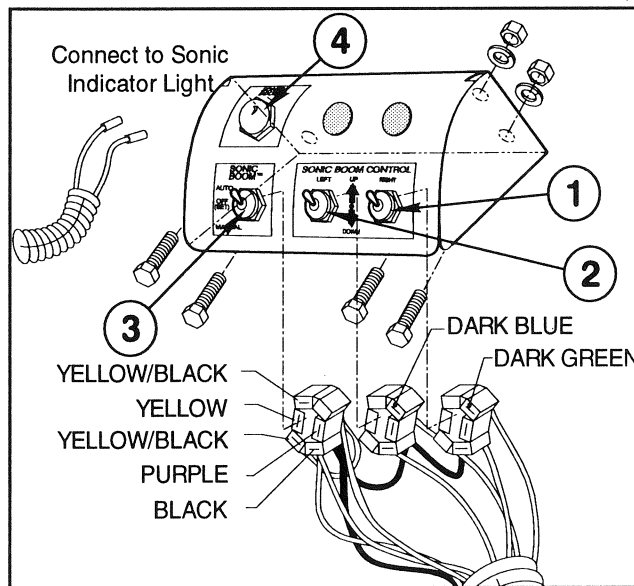

FIG. 13
11. Install Switch Bracket to Dash using four (4) 1/4 NC x 5/8" hex hd cap screws, lock washers, and hex nuts as shown in FIG. 13
12. Install two (2) Boom Switches (included in Boom Lift Kit), Sonic Boom™ Mode Switch, Sonic Boom™ Indicator Light, and Decals. Connect Wiring Harness as shown in FIG. 13